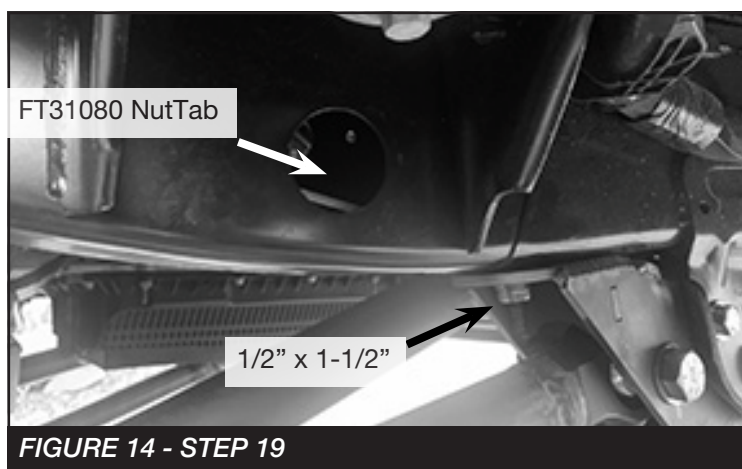

FIGURE 14 - STEP 19
19. Install the supplied FT31080 (Nut Tab) through the factory frame opening and install the 1/2" x 1-1/2" bolt, washer and split washer to attach the new 4-link bracket to the frame. **SEE FIGURE 14.** Torque 3/4" hardware to 380 ft-lbs and the 1/2" hardware to 106 ft-lbs.